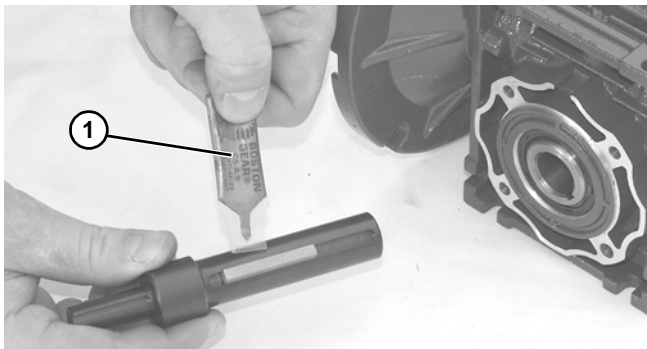

Figure 30
4. Apply anti-seize (Figure 30, item 1) to shaft.